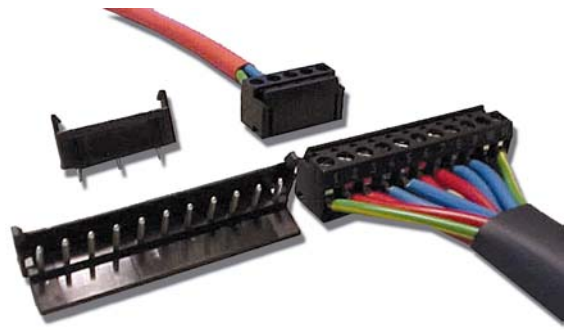

Fig. 20
Resistor R_{ext1} , connected between R (pin 2) and GND1 (pin 1) of the D-SUB connector or according to fig. 20.
Note: If the R function is not included in M1 or M2, refer to figure 20 how to connect R_{ext1} or R_{ext2} .
b) Adjustment by an external control voltage V_{ext} (1.25 – 2.75 V), connected between R (pin 2) and GND (pin 1) of the D-SUB connector or according to fig. 20.